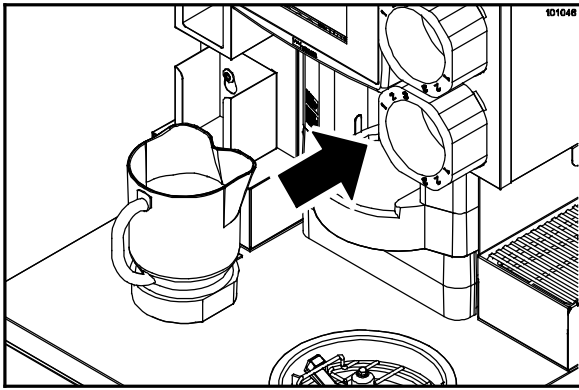

Figure 168
1. Place a blender pitcher in the dispensing area. (See Figure 168.)